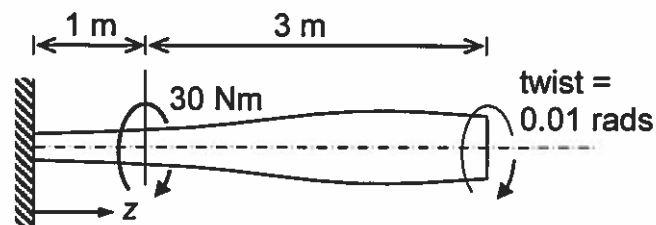

Figure 3b
- (b) Figure 3b shows a cantilevered bar subjected to a torque of 30 Nm at  $z = 1$  m and includes the resulting twist at the free end ( $z = 4$  m).